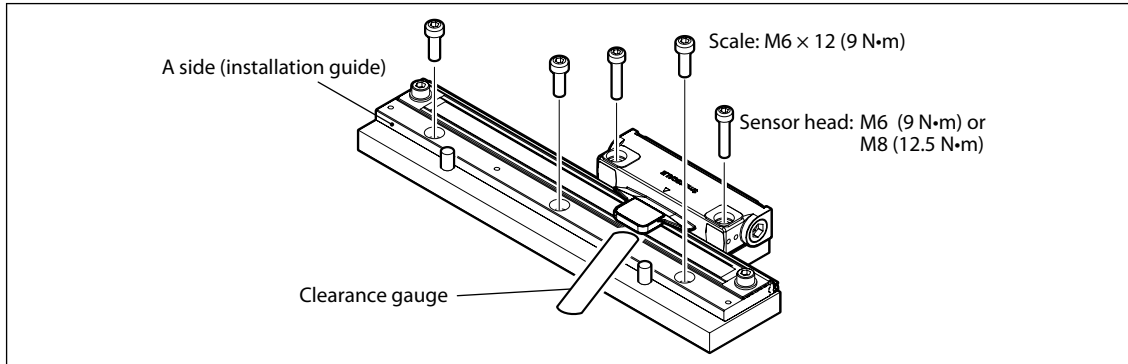

Fig. 3-2
- Loosely turn the mounting screws of the sensor head first. Use a clearance gauge to check the clearance with the scale and then tighten the screws with the specified torque to fasten the scale. (See Fig. 3-2.)